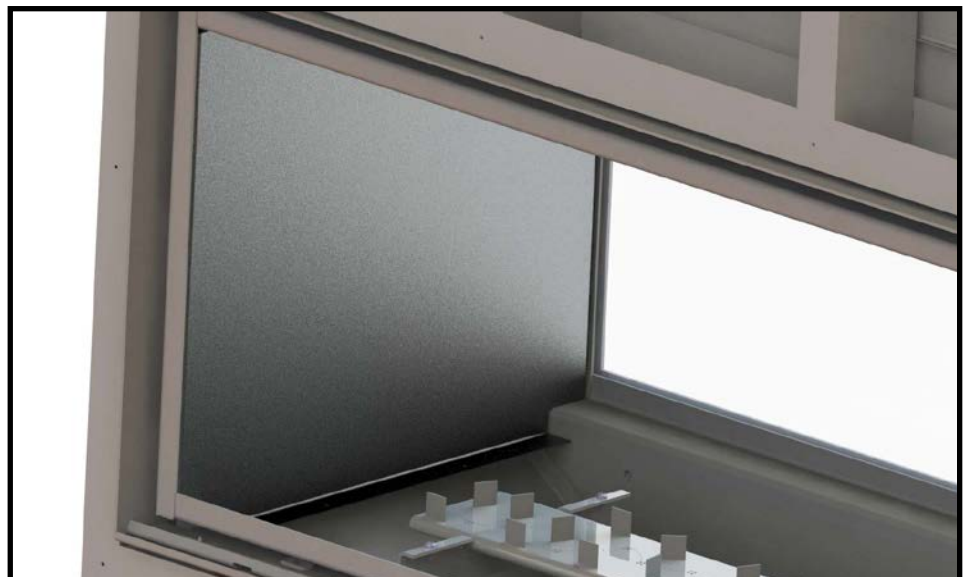

Figure 46: Side panel install.
5. Remove the panel retainer clips from inside the firebox and install the side panels. Replace the panel retainer clips (Figure 45 and Figure 46).